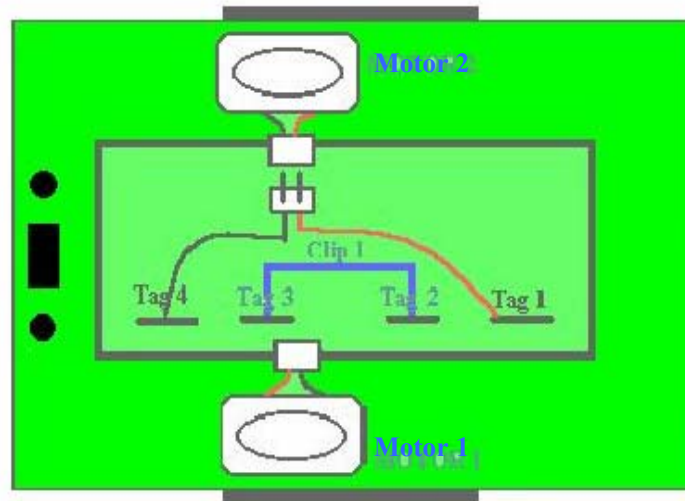

Figure 16: Top View of the eRacer_16m Base
12. Solder a blue (or green) wire between Tag 2 and Tag 3 of the Battery Tags (see Figure 16 Top View of eRacer_16m Base in the Motor and gear test section).